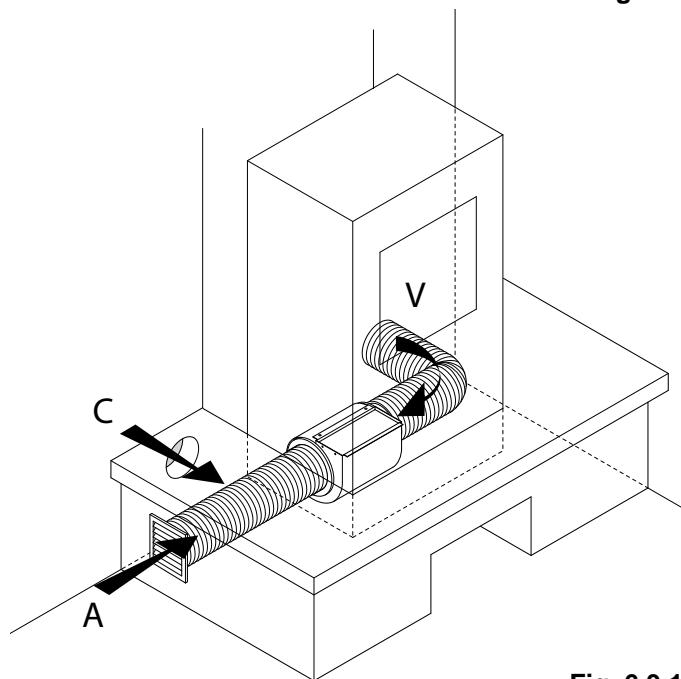

Fig. 6.3.1
6.3.1.1 *The standard solution is shown in Fig. 6.3.1 where:*